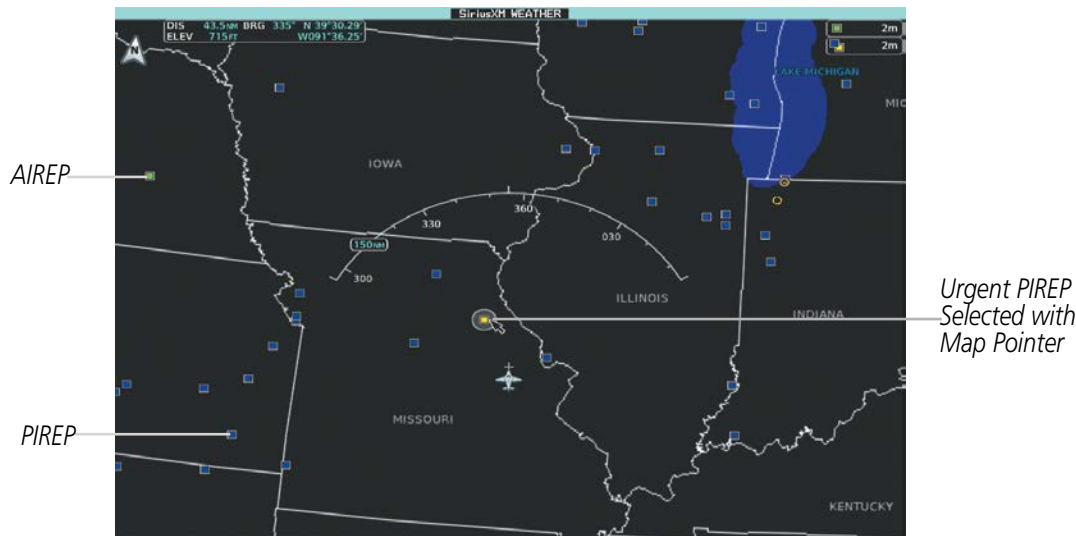

Figure 6-43 AIREPs and PIREPs on the SiriusXM Weather Pane
Pilot Weather Reports (PIREPs) (Figure 6-43) provide weather observations collected from pilots. When significant weather conditions are reported or forecast, Air Traffic Control (ATC) facilities are required to solicit PIREPs. A PIREP may contain adverse weather conditions, such as low in-flight visibility, icing conditions, wind shear, and turbulence. PIREPs are issued as either Routine (UA) or Urgent (UUA).